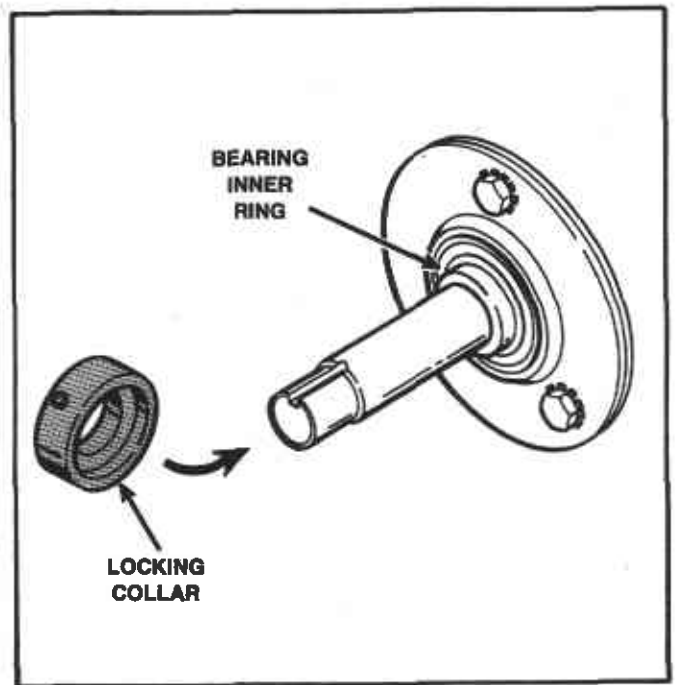

Figure 36
- d. With shaft shoulder up against rear bearing, mate the self-locking collar with the cam of the wide inner ring of the rear bearing, *Figure 36*.